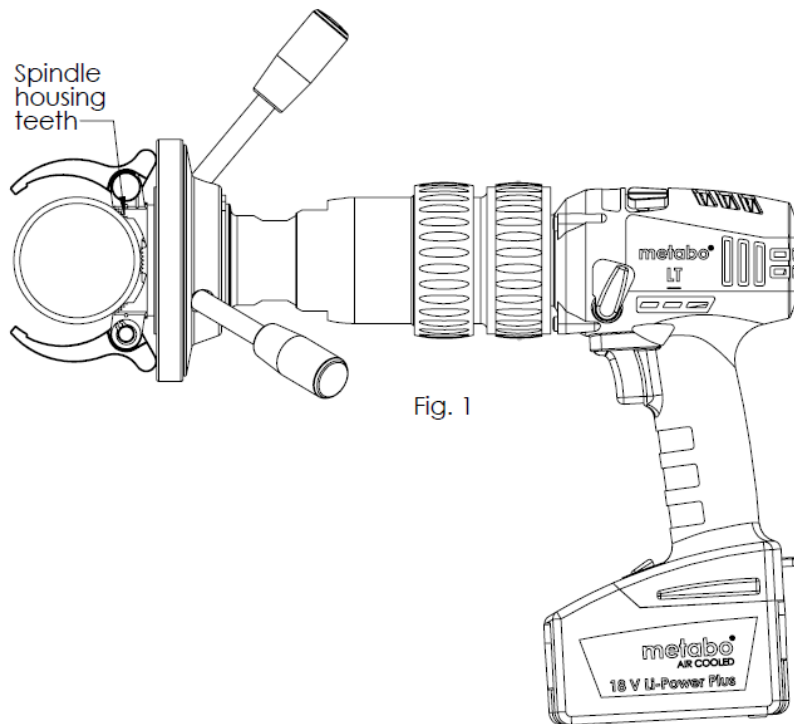

Fig. 1
1. Referring to fig. 1, place the teeth in the spindle housing against the tube where to drill the hole.